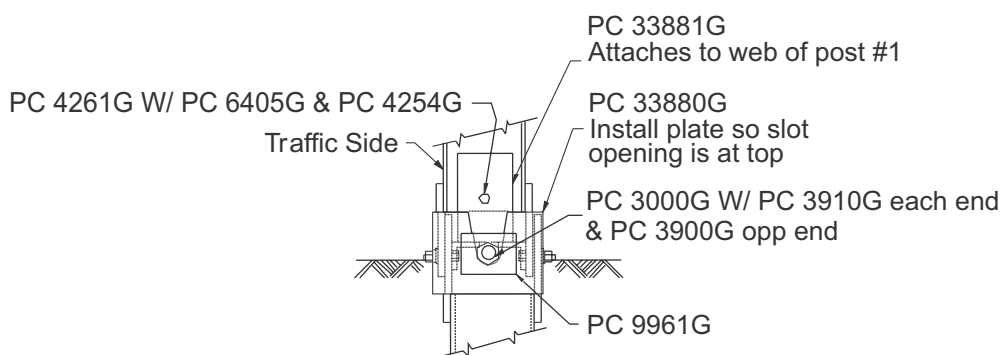
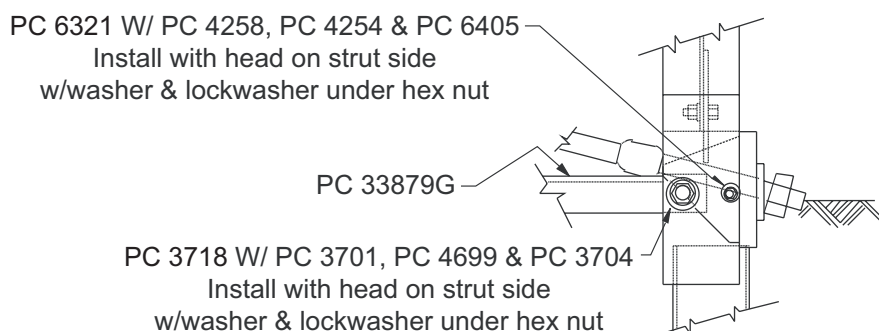

FIGURE 6
FIGURE 7
If the finished grade is paved around terminal posts 1 and 2, a 3" deep recess around each post needs to be provided to allow for the top post to rotate when impacted. (See Figures 6 and 7). The recesses should not be filled with compacted asphalt or concrete.
**See Figures 6 and 7.**
After the Cable Web Plate is installed, place the bearing plate (PC-33880G) with the open side of the V-notch pointing upward and the plate washer (PC-9961G) on the end of the cable. **See Figure 6.** The bearing plate should rest on the top of the flange of the HBA bottom post. **See Figure 7.**